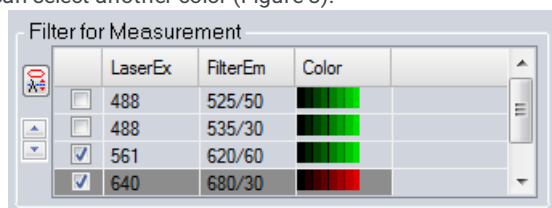

Figure 8.
- 11 Select desired laser wavelengths (according to your fluorescent labeling) by checking them on the left side. Here you can also pseudocolor the wavelengths by clicking on the color gradient shown. A dropdown menu will appear and you can select another color (Figure 8).